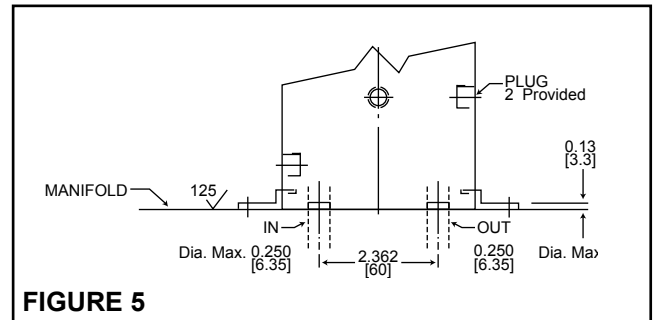

FIGURE 5
4. Secure "EN40" to Manifold using Brackets and M5 Cap Screws provided in parts bag (See Figure 5 & 6).